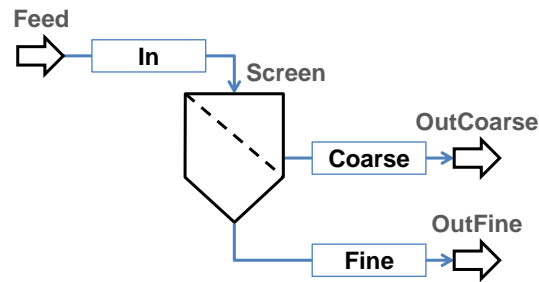

Figure 1. Flowsheet of simple screening.
1. Create a flowsheet in Dyssol with the structure shown in Figure 1. Use the values specified below as process parameters.